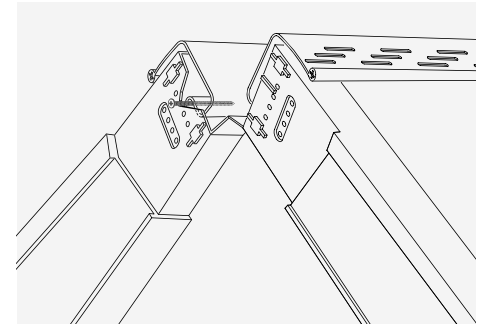

Fig. 6 - Insert verge unit with previous unit
- 12 For the Marley Universal dry verge system, top course verge unit is retained by inserting a screw into second series of holes in verge unit and locating unit behind mid section of dry verge batten (Fig. 6)